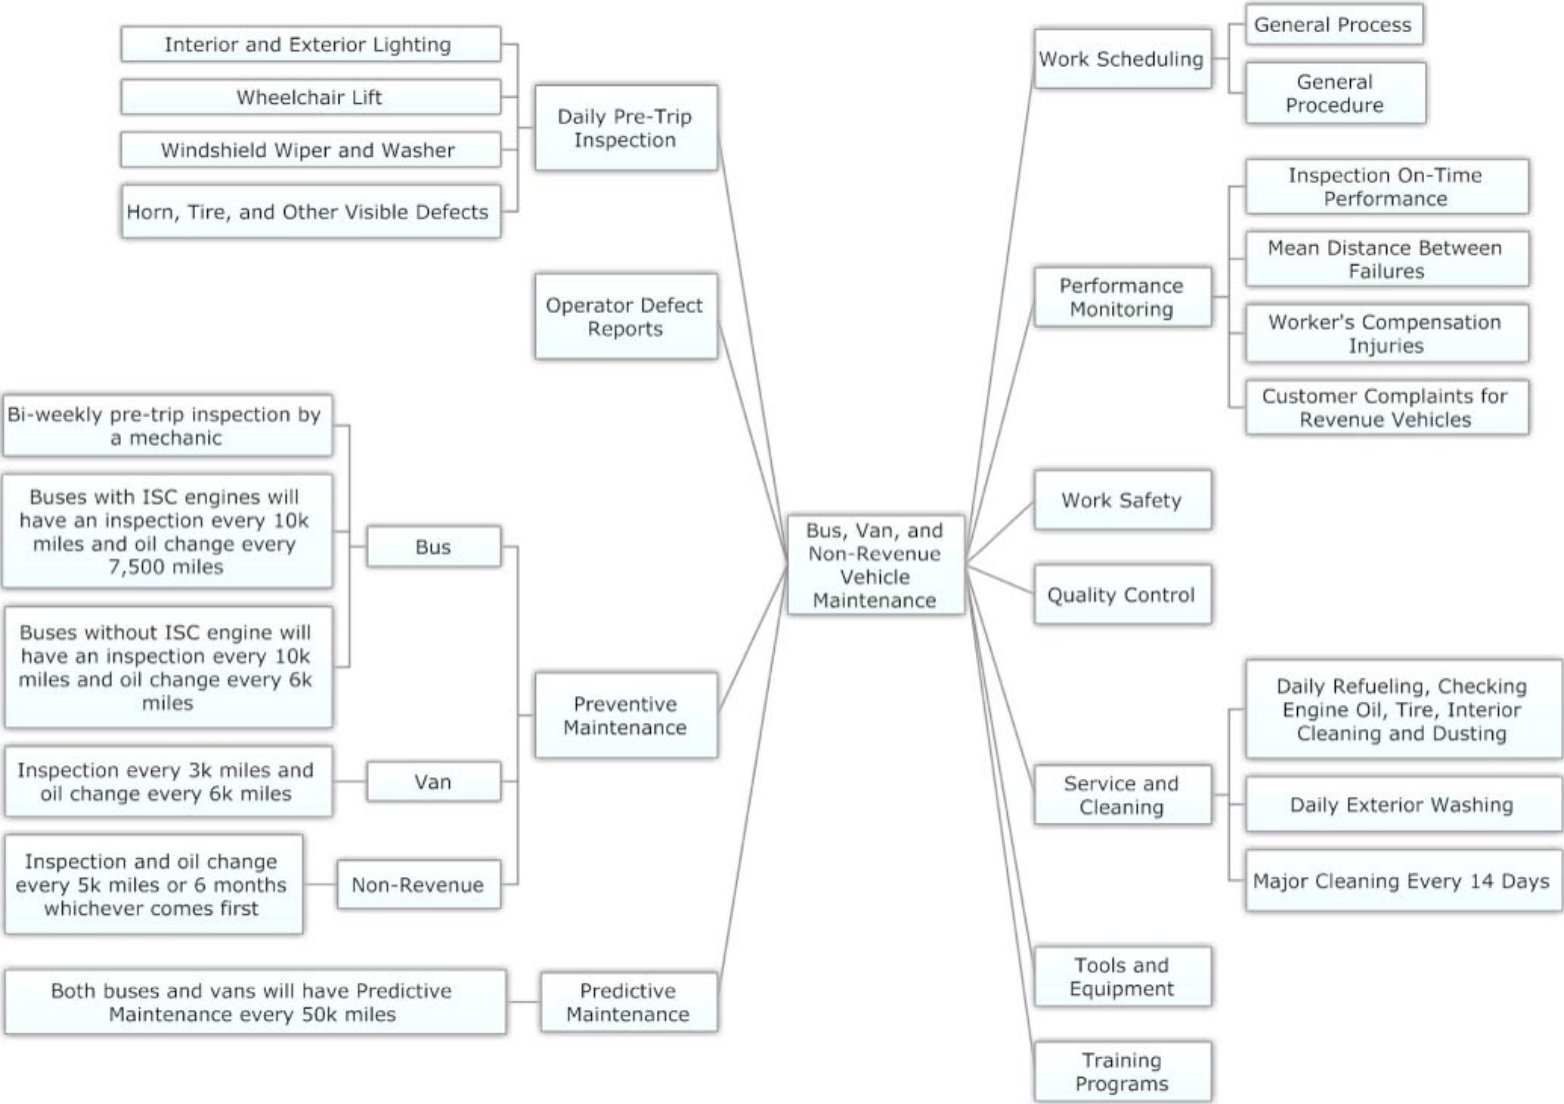

Figure 2-6 Overall Bus, Van, and Non-revenue Vehicle Maintenance Practice
The Metro vehicle (e.g., bus, van and non-revenue vehicles) maintenance team has a detailed maintenance plan,² in which the maintenance objectives are clearly defined. The Metro Vehicle Maintenance Department's objectives are to maximize vehicle reliability, vehicle operating efficiency, and labor productivity. The overall bus, van, and non-revenue maintenance practice is outlined in Figure 2-6 and is further explained in the following sections.
All revenue vehicles at Metro are maintained under a dual system of Preventive Maintenance Inspection (PMI) and Predictive Maintenance (PM). The PMI and PM schedules are developed based on OEM recommendations and the best practice at Metro. All inspections and maintenance work are conducted within ± 10 percent of the scheduled intervals, and all inspection and maintenance results are recorded in the M-5 asset management system. As shown in Figure 2-6, the PMI and PM programs are complemented by daily pre-trip inspections and operator defect reports. Metro has developed a checklist to facilitate daily pre-trip inspections for operators. At the end of the day, each operator also turns in a "grief card" to either the yard dispatcher or maintenance personnel.